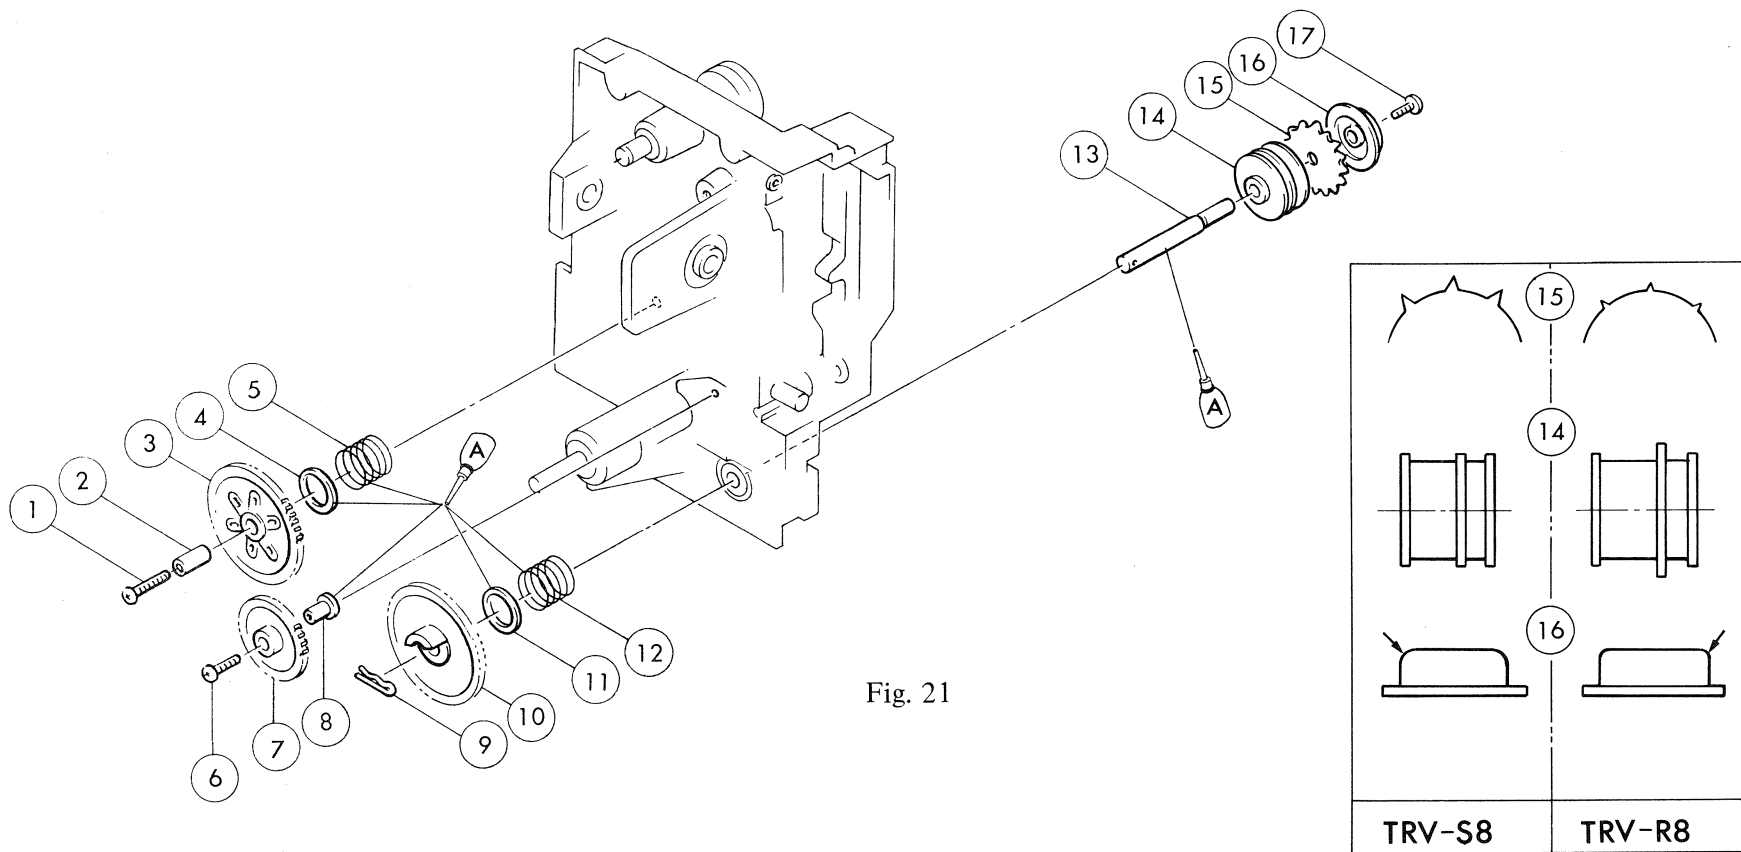

Fig. 21
### III – 2 – 11 Second Sprocket (See Fig. 21)
1. Apply ALVANIA GREASE 2 to the gear side of ④, ⑧ and ⑪, and to the washer side of ⑤ and ⑫.
2. Make sure that there is no scratch, wear or deformation in ③, ⑦, ⑩ and ⑮.
3. Make sure that the film traveling surface of ⑭ has no scratch.
4. When installing the assy parts ⑬ ~ ⑰, make sure that there is no slackening (play), and that they have smooth rotation.
5. Take utmost care so as not to mix up the parts specially used for type S8 with the parts specially used for type R8; refer to Fig. 21.